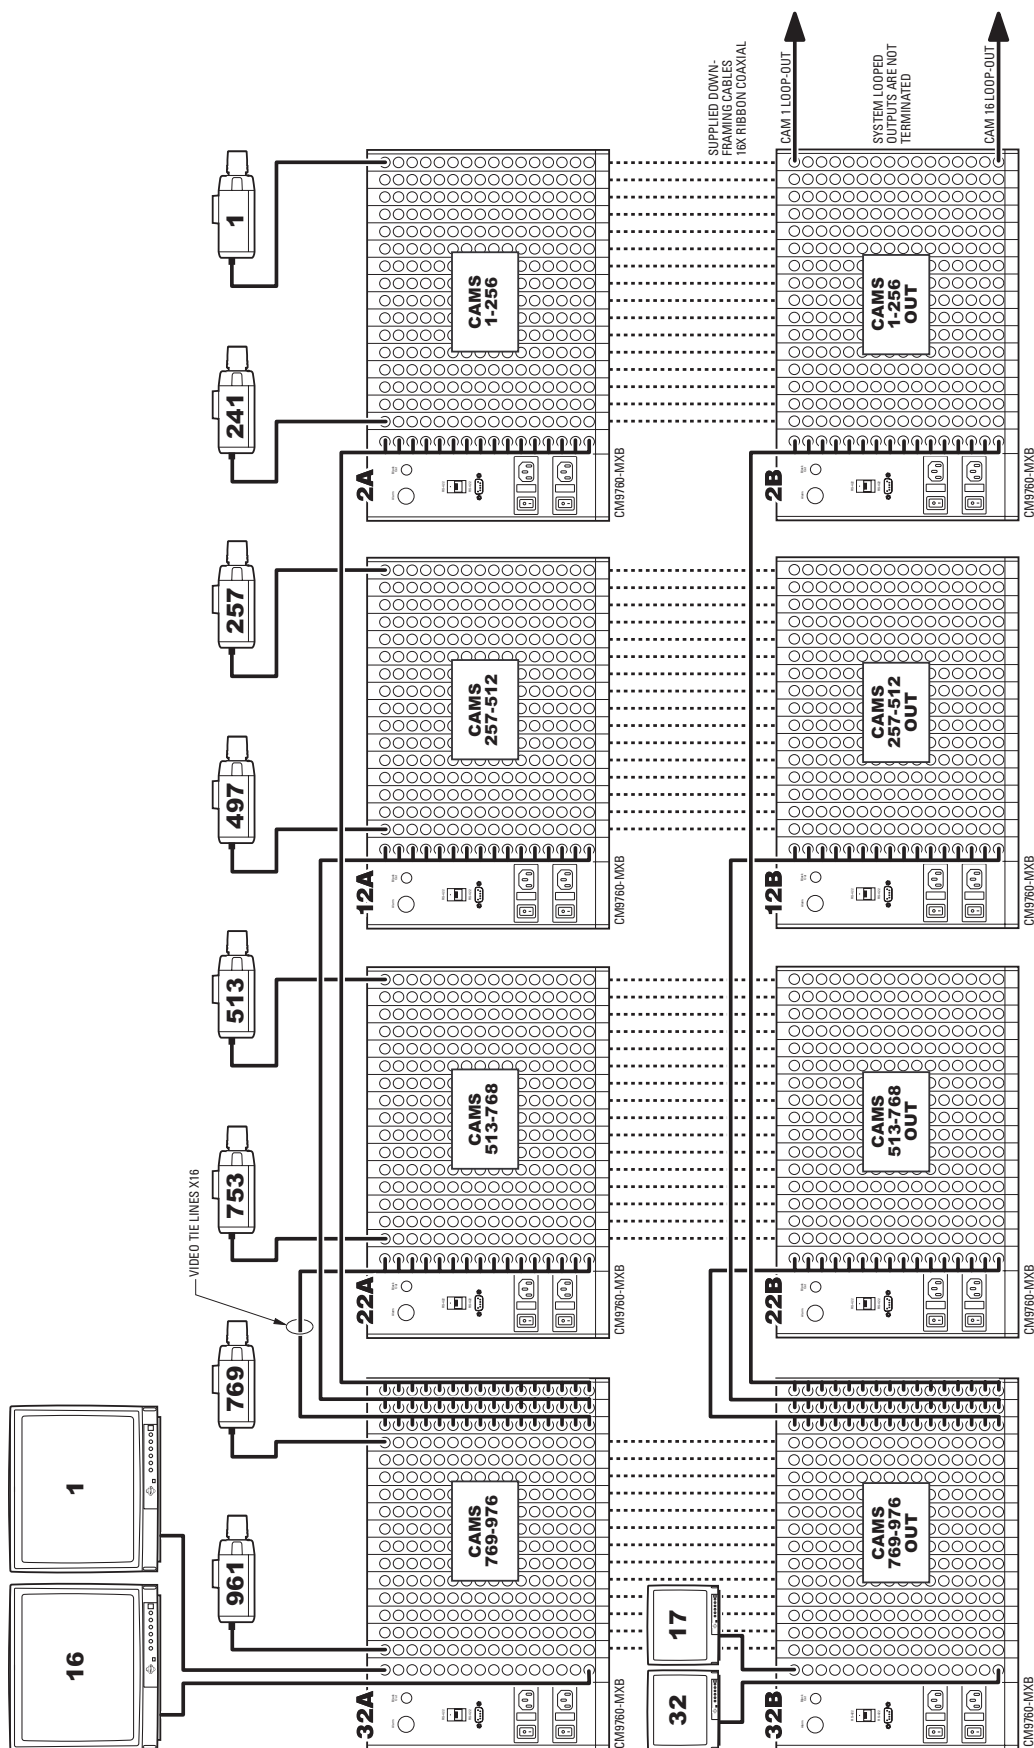

Figure 80. Sideframing and Downframing: 976 x 32 Configuration, Looping
- 976 x 32, looping (refer to Figure 80)